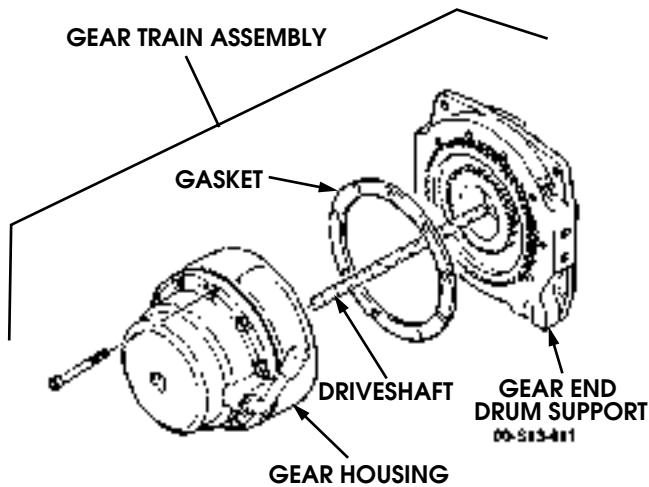

Figure 13-9: Gear Train Assembly
13. Remove driveshaft from gear train assembly (Figure 13-9).
15. Remove gasket from gear end drum support. Discard gasket (Figure 13-9).